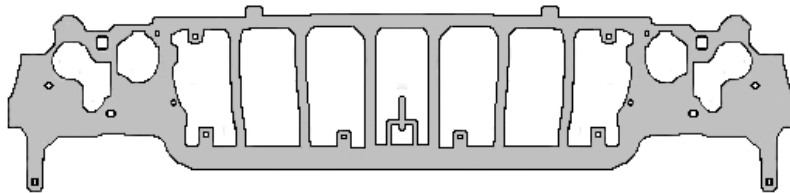

Fig. 322-9A
1. Warpage. The part was to be 63 inches long. End to end warp was a great concern, due to the importance of mounting and securing the part to a vehicle. **(See Fig. 322-9A)**
FIGURE 322-9A The molder of a 63-inch long SUV headlight mounting module turned to gas assist for help in controlling warpage, shrinkage, and weld lines and in keeping press size to 1450 tons.